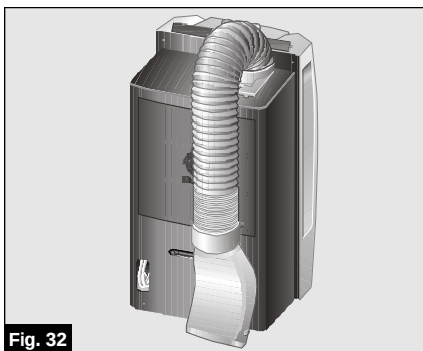

Fig. 32
- To do this, bend the tube towards the back of the appliance and secure it with the diffusion hook, **Fig. 32** and **33**.